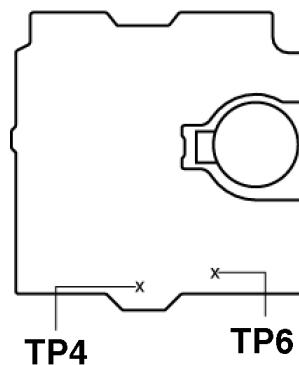
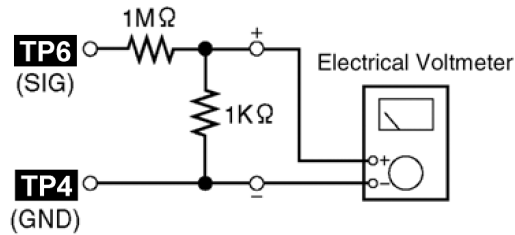

Fig. 9
Fig. 12
1. Connect an electrical voltmeter. (Fig 12) (Fig 9 for location of test point)